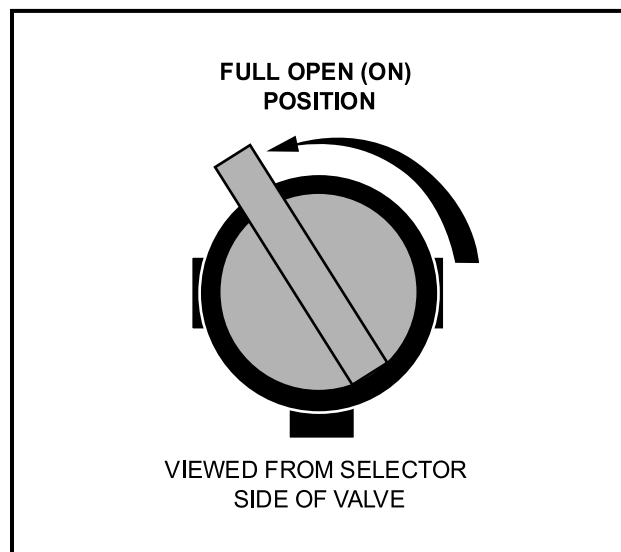
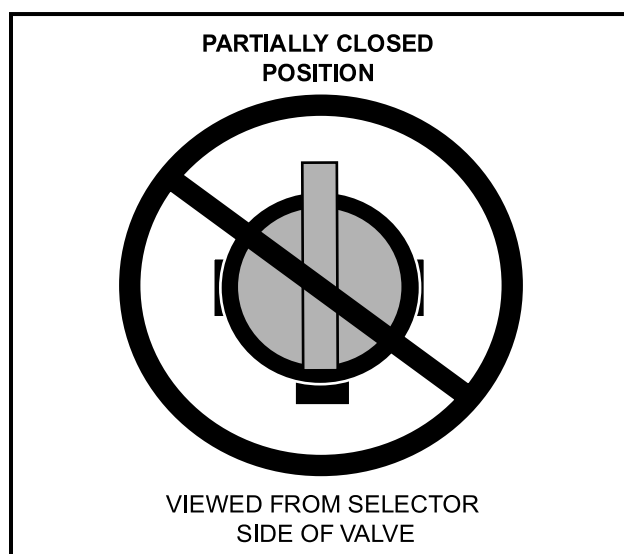

Figure 15 Fuel Shut-off Valve – Open Position
Figure 16 Incorrect Fuel Shut-off Valve Setting
- 1.1. Remove plug from the fuel tank vent nipple and open the fuel shut-off valve (**Figure 15, Page 24**). Make sure the valve is fully open. A partially closed fuel shut-off valve (**Figure 16, Page 24**) combined with the use of the choke, can result in a fouled spark plug and engine failure.